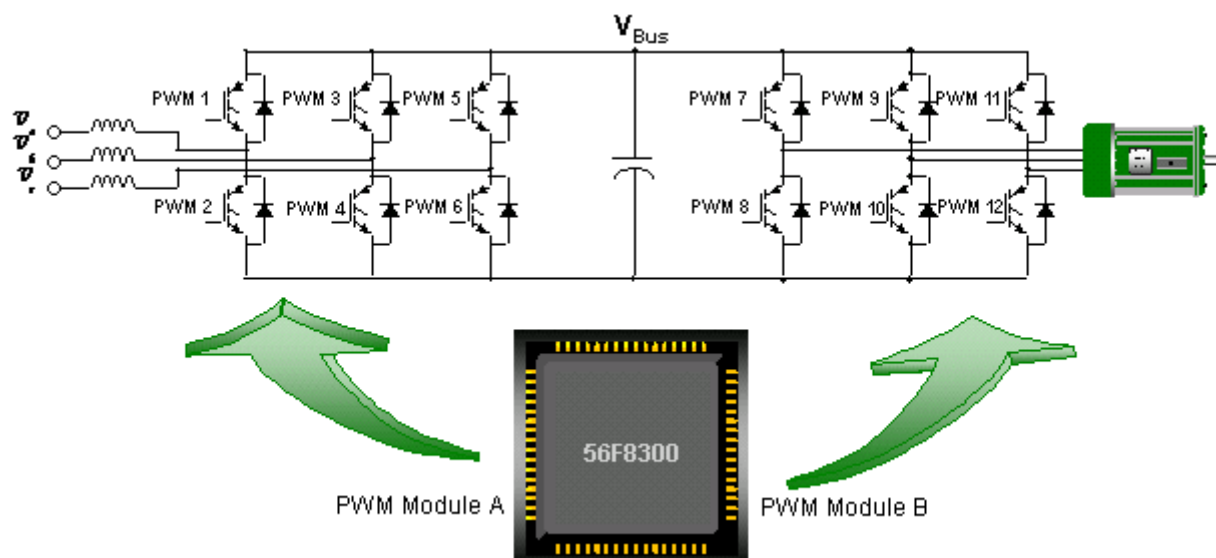

**Figure 1-11. Example Using Two PWMs**
**Figure 1-11** demonstrates how the two PWM modules present on many of the 56F8300 components can be used. In this example, it performs unity power factor correction (power flow direction control) with regeneration to mains. The second PWM could also be used to drive an independent three-phase motor.